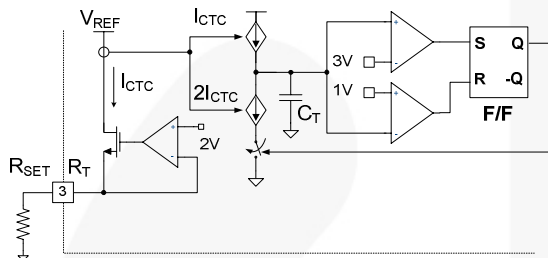

Figure 17. Current Controlled Oscillator
1. Internal Oscillator: FSFA2100 employs a current-controlled oscillator as shown in Figure 17. Internally, the voltage of the R_T pin is regulated at 2V and the charging/discharging current for the oscillator capacitor C_T is determined by the current flowing out of the R_T pin (I_{CTC}). When the R_T pin is pulled down to the ground with a resistor R_{SET} , the switching frequency is fixed as: